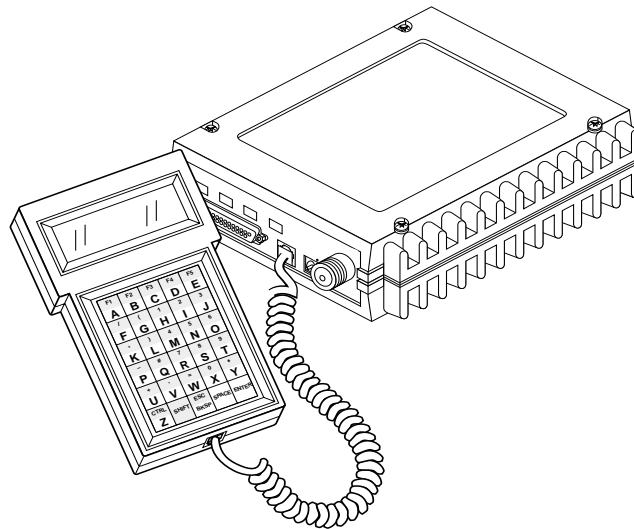

Figure 15. HHT Connected to Transceiver
- a. Connect an HHT to the DIAG(NOSTICS) connector (see Figure 15). After the HHT beeps, press **ENTER** to display the ready “>” prompt.